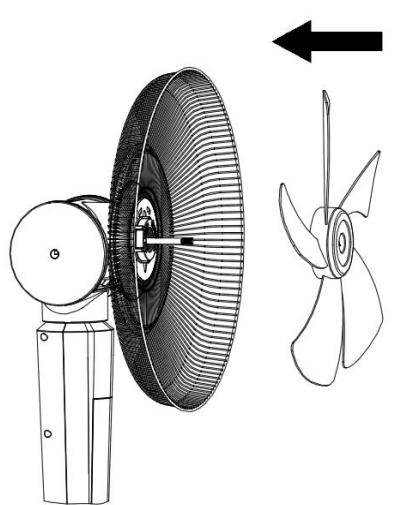

Figure 4
- D. Fit the fan blade onto the motor axel. Tighten the blade screw in counter-clockwise direction (Figure4).